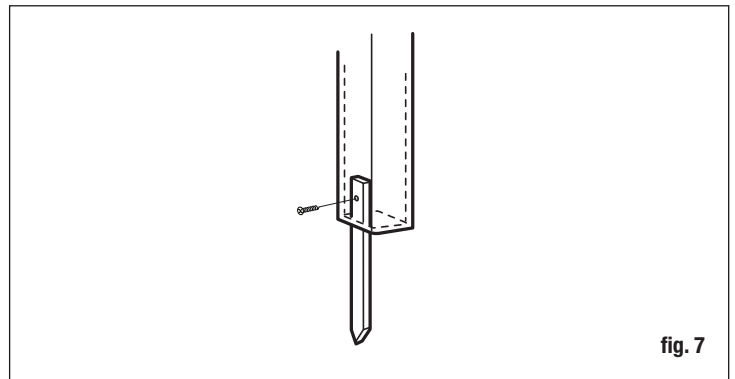

fig. 7
- Attach each post to its corresponding stake by drilling through the post and into the wooden stake using a 7/8" screw (fig. 7).